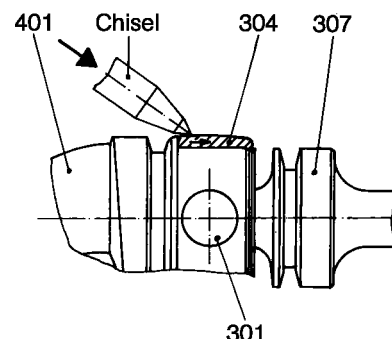

Figure 3: Dismounting the joint sleeve.
- By means of a screw driver, lift joint collar (308) and withdraw axially towards the joint shaft (307).
- Drive joint sleeve (304) over the collar of the joint shaft (307). In doing so, do not deflect joint shaft (307) (please refer to Figure 3 below).